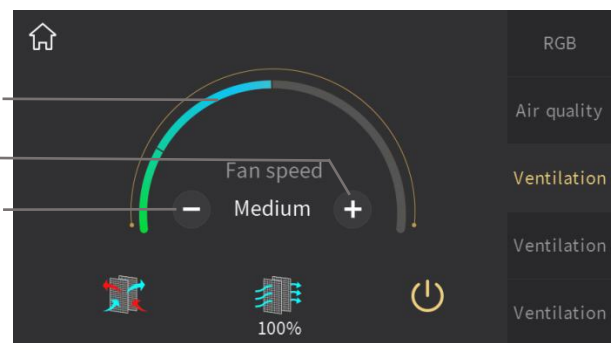

Fig.2.6.4
- ⑨ This ring bar displays specific fan speed level;
- ⑩ To increase fan speed level by touching this icon ;
- ⑪ To decrease fan speed level by touching this icon.
When fan speed is not configured as auto, as shown in Fig.2.6.4, by touching icon⑩ and icon⑪ to adjust fan speed; for each touch of icon⑩ and icon⑪ to adjust one level, there are 3 modes of fan speed: Low, Medium and High. At this time, the adjustment is manually, not automatically according to the concentration of CO₂ or PM2.5.